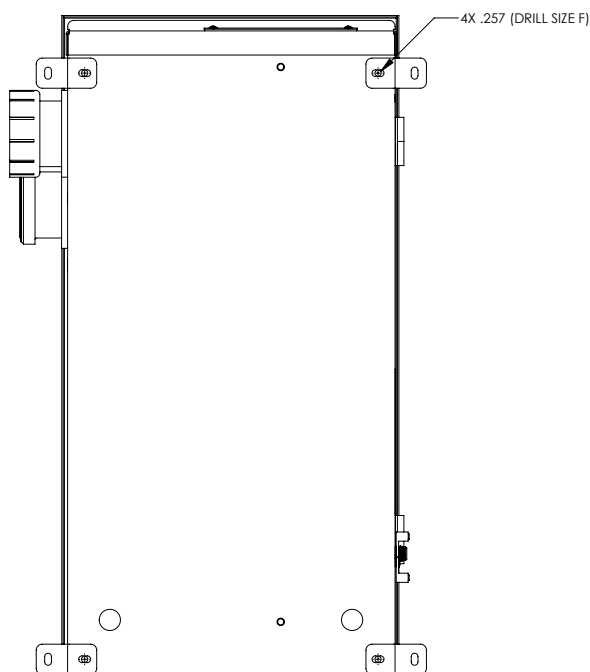

Figure 2: Wall Mounting Hole Pattern
1. Drill 4 holes, (.257 in, drill size F), in the back of the enclosure approximately as shown in **Figure 2**.